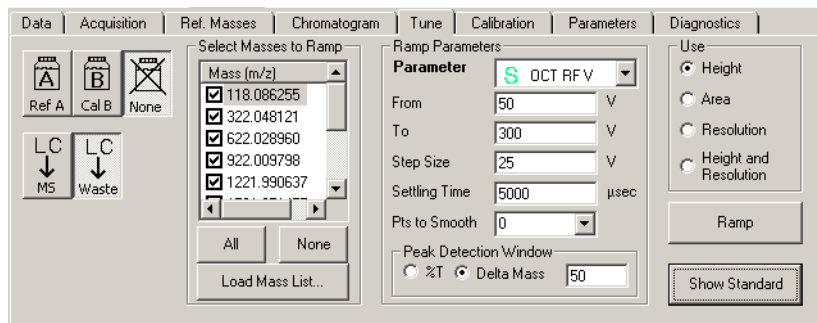

Figure 10 Extended Tune tab
- 1 On the Extended Tune tab (Figure 10 on page 24), ramp the values of selected parameters within a selected range for selected masses.